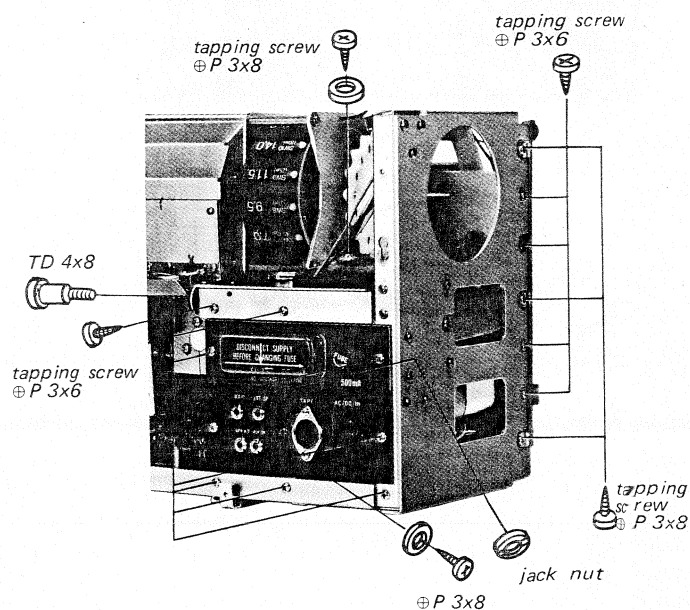

Fig. 2-18
1. Remove the 19 screws shown in Fig. 2-18.